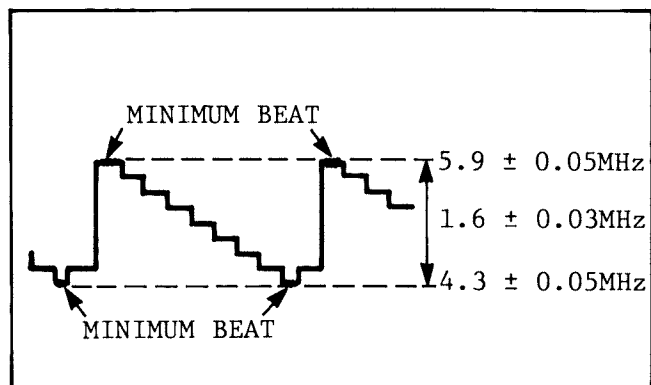

Fig. 8. Y. DEVIATION
4. Adjust VC1 (Y FREQ) and VR2 (Y DEV) so that the sync tip frequency is $4.3\text{MHz} \pm 0.05\text{MHz}$ and white peak frequency is $5.9\text{MHz} \pm 0.05\text{MHz}$ and the deviation is $1.6\text{MHz} \pm 0.03\text{MHz}$, as shown in Fig. 8.